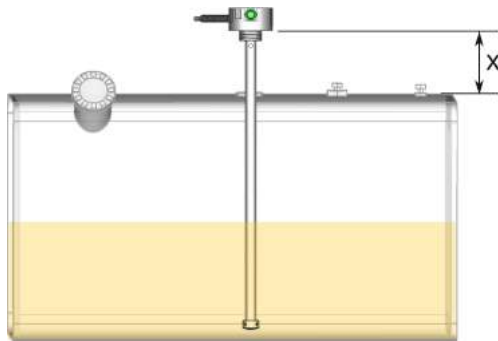

Figure 14: Calculating Extended Length
- Place probe into the mounting hole / nozzle and mark the extra length, say x , above the tank's mounting surface as shown in Figure 14.